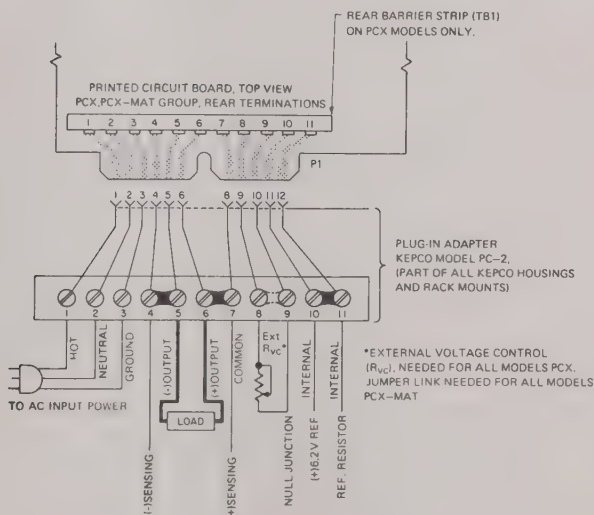

FIG. 3-1 REAR CONNECTIONS FOR STANDARD OPERATION
3-1 STANDARD OPERATION, LOCAL CONTROL (Refer to FIG. 3-1)
- 3-3 The load should be connected as shown (on PCX-MAT models, the load may be connected to the front terminals). Error sensing, as described below (Refer to paragraph 3-5) is recommended to insure specified performance directly at the load. Standard jumper link connections for local control are shown in FIG. 3-1 below. All load connections and jumper links must be tight and secure for proper operation. If the indicated Plug-In Adaptor (PC-2) is not used, the jumper links must be provided on the mating connector to P1. In the case of PCX Models which are equipped with their own miniature barrier strip (TB1), the jumper links on TB1 must be removed, if an adaptor (PC-2—part of all cases and rack mounts) is used.
- 3-4 The connecting diagrams shown in the following paragraphs show ONE barrier strip only. This barrier strip represents the rear terminations of the PCX as well as that of the PCX-MAT group. The relationship between barrier strip terminals and pin numbers on P1 may be found by referring to FIG. 3-1. AC line connections (as shown in FIG. 3-1) have been omitted in order to simplify the presentation.